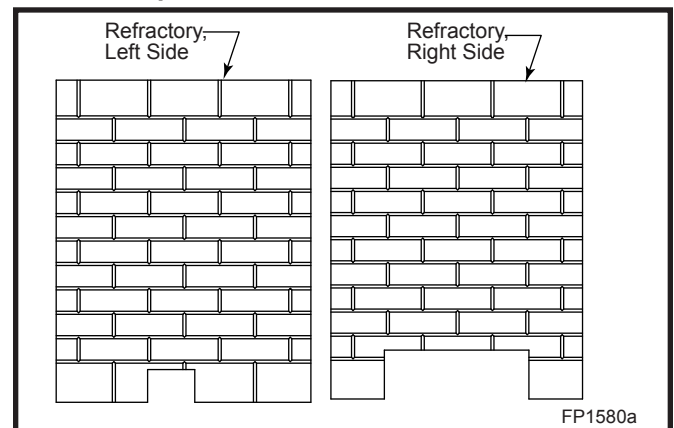

Fig. 40 Ceramic refractory panels.
1. Using a Robertson screwdriver, remove the two (2) nuts holding each fettle to the burner assembly.
2. Identify the side refractory. The refractory with the small cut out at the bottom must be installed on the side where the plumbing for the pilot and manifold are. The other side refractory has a larger cut out at the bottom. This is designed to allow the opening for the fresh air coming to the combustion chamber unobstructed. (Fig. 40)